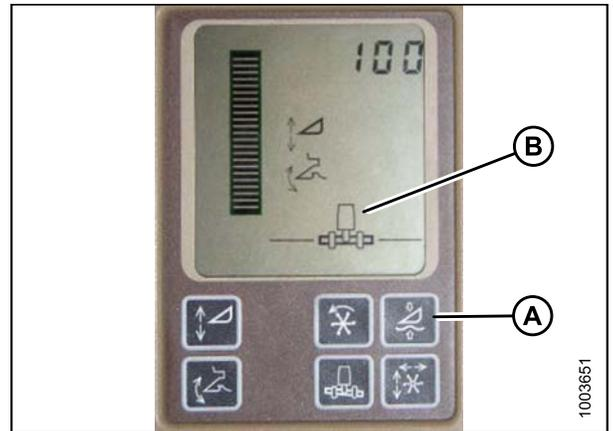

Figure 3.233: John Deere Combine Display
Do **NOT** use the active header float function (A) in combination with the MacDon auto header height control (AHHC)—the two systems will counteract one another. The header symbol (B) on the display should **NOT** have a wavy line under it and should appear exactly as shown on the Active Header Control Display in Figure 3.233: *John Deere Combine Display*, page 159.